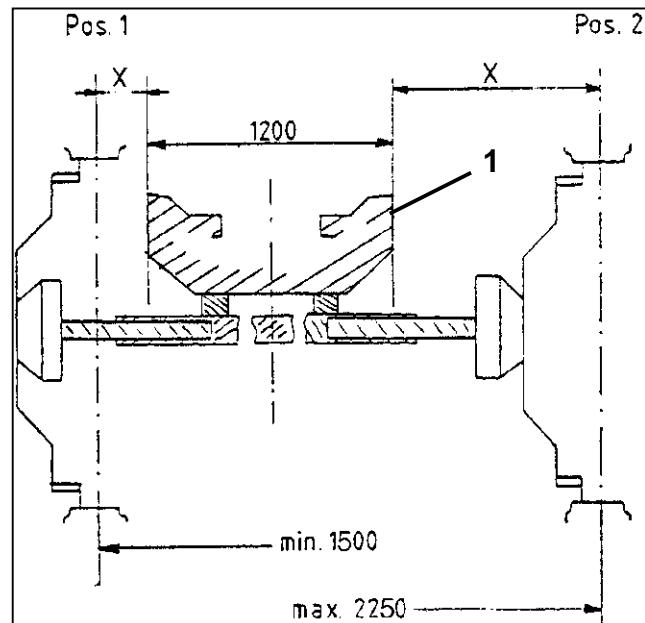

Fig. 4.3
- Variable from 1500 mm to 1 960 mm if rims are fitted according to Pos. 1 (Fig. 4.3).
- Variable from 1700 mm to 2250 mm if rims are fitted according to Pos. 2 (Fig. 4.3).
On the UG 4500 Nova the track width can be adjusted by wheel mounting (Fig. 4.3):
Position 2: 2.250 mm (Fig. 4.3)